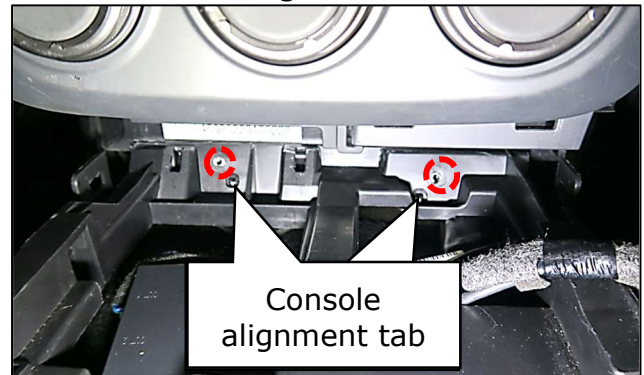

Figure 34
- Align the console alignment tabs with the console alignment holes (just below mounting screw holes) (Figure 34)
- Install the (2) front console screws (Figure 34)